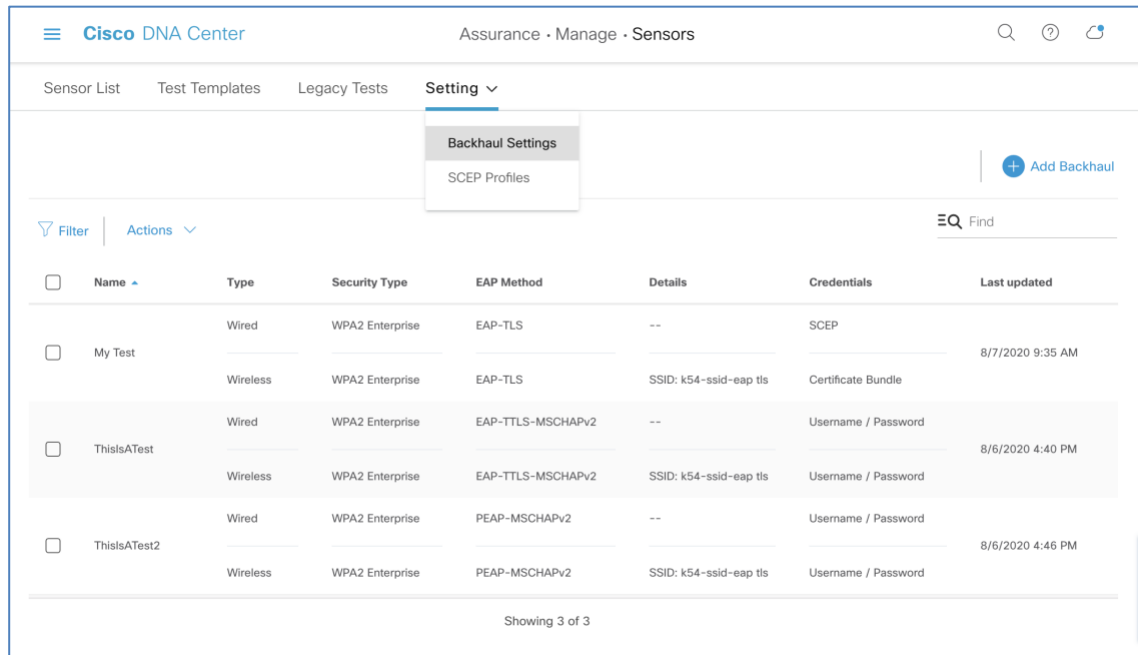

Figure 35.
1. To create a new sensor backhaul configuration, open the menu, and click **Assurance > Sensors**, then **Setting > Backhaul Settings**, then **Add Backhaul (Figure 35.)**.